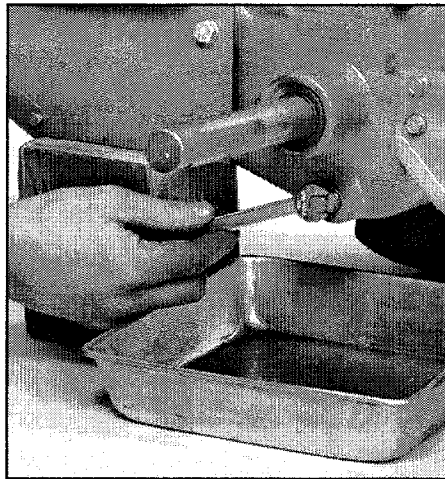

Figure 5-4: Remove drain plug to drain transmission gear oil (also remove oil fill plug and oil level check plug).
3. Place a clean pan below the transmission drain plug (see Figure 5-4) and remove the drain plug. The oil will start flowing out of the drain hole (it may flow slowly, especially in cold temperatures).